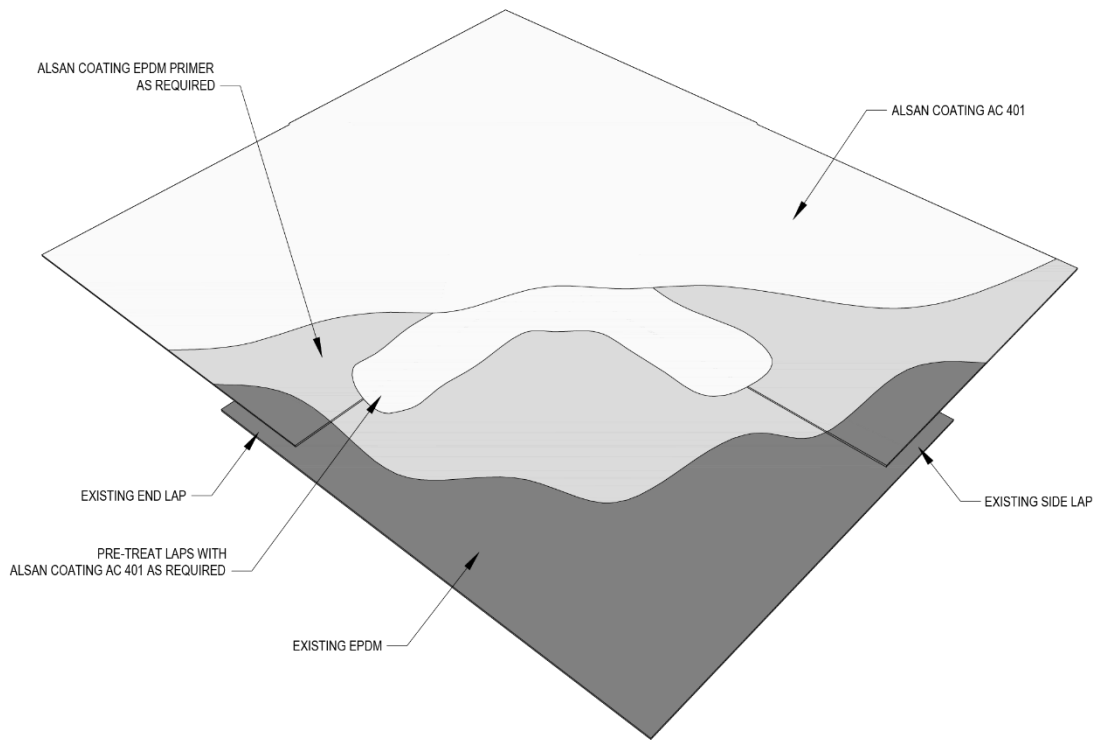

Figure 2.2e Acrylic Roof Coating Over EPDM, Side/End Laps
- Refer to flashing detail guidelines indicated in Figures 2.2e through 2.1h.